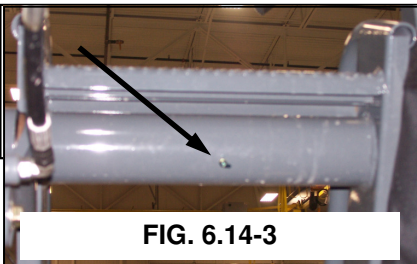

FIG. 6.14-3
**LADDER**– The ladder pivot tube (figure 6.14-3) has a grease zerk that needs to be lubed every 50 hours or as needed.